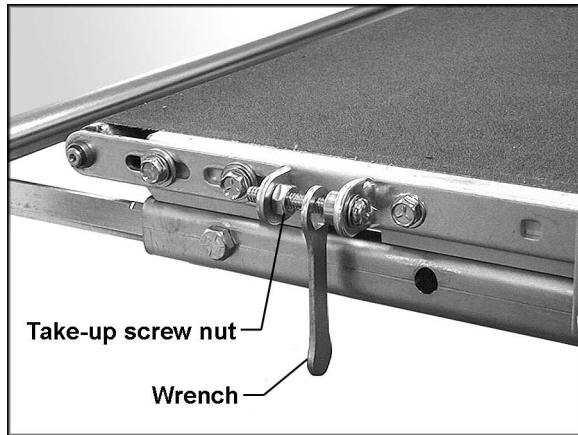

Figure 31
**Tension.** To adjust the tension of the conveyor belt, first adjust the take-up screw nut (Figure 31) using the attached wrench. Do this on both sides of the conveyor to obtain approximately equal tension on both sides of the belt when taut. Insufficient belt tension will cause slippage of conveyor belt on the drive roller during sanding operation; the conveyor belt is too loose if it can be stopped by hand pressure applied directly to the top of the conveyor belt. Excessive belt tension can result in bent rollers, bent brackets, and/or premature wearing of the bushings or belt.
2. Loosen the conveyor take-up screw nuts (see Figure 31) to relieve belt tension, and slide the driven roller fully inward.